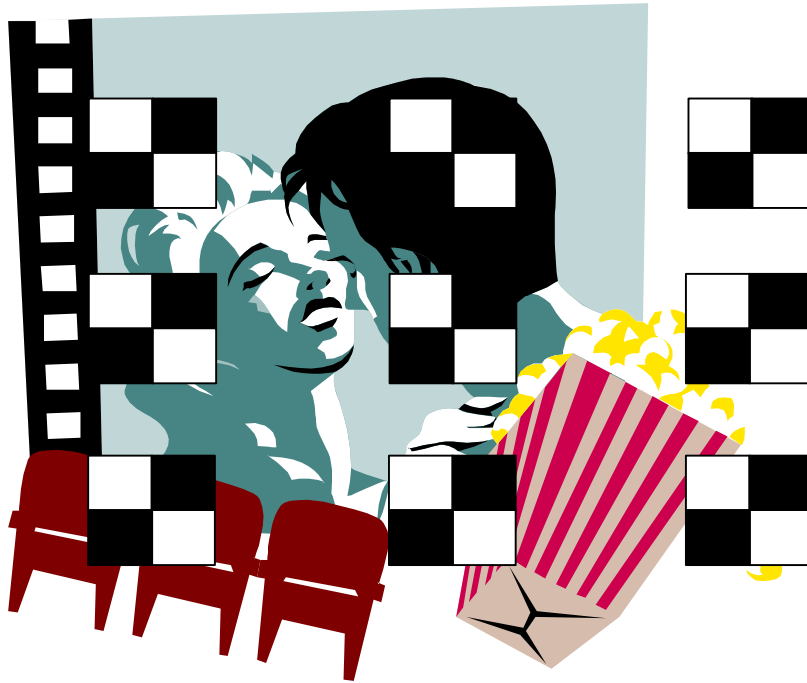

Figure 5-18. Cont/Bright Test Pattern. The nine black and white squares overlay the input image on the screen.
4. Use the up/down arrow keys to increase or decrease the Brightness setting so the blackest part of the input image is equal to the black squares in Figure 5-18.
2. Use the up/down arrow keys to increase or decrease the Contrast setting so the whitest part of the external image is equal to the white squares in Figure 5-18.